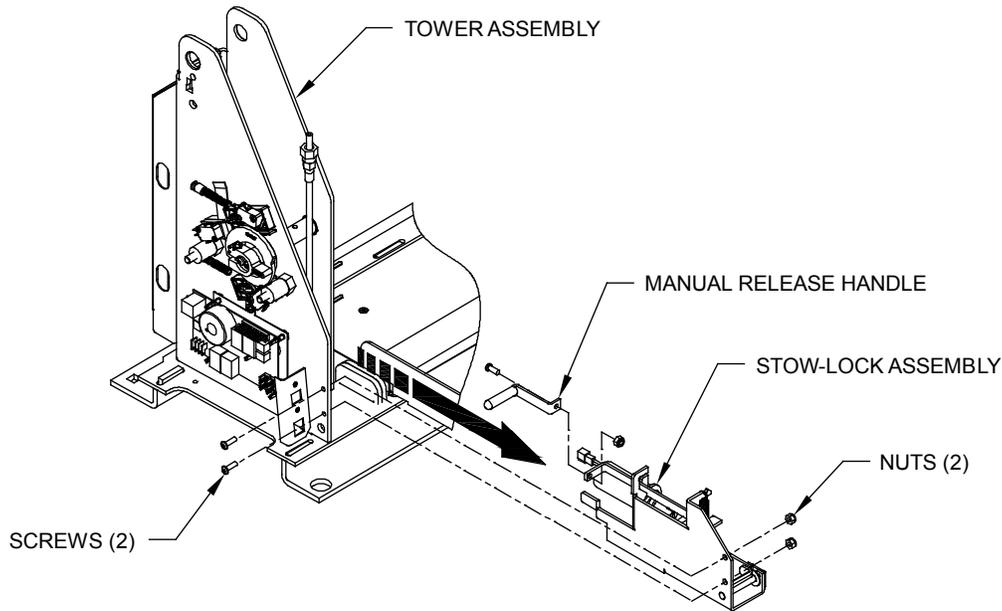

FIGURE 3-34
13. Refer to **Figure 3-34**. Remove two screws and two nuts to detach stow-lock assembly from tower assembly and retain hardware.